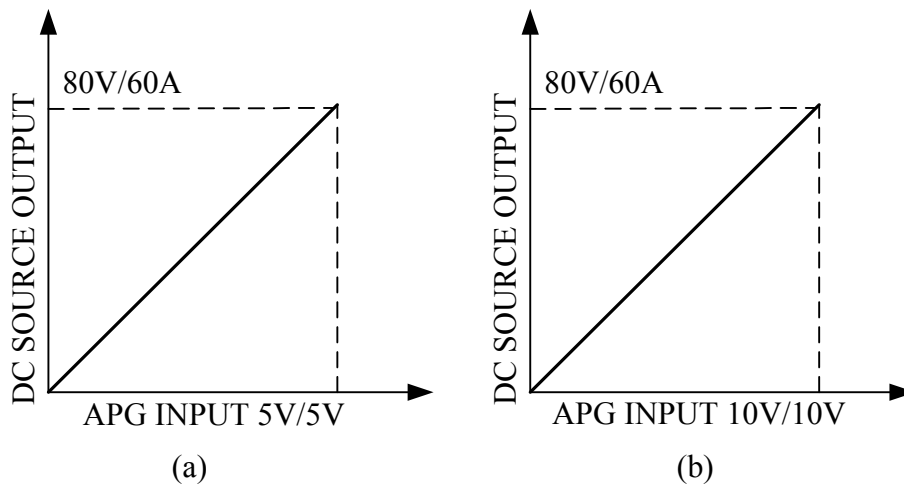

Figure 3-10
① NOTICE
- a. When selecting $V_{ref}=5V$ → it means the DC Power Supply’s output 0V/0A~80V/60A will map to 0~5V (programming or measurement) as Figure 3-10(a) shows.
- b. When selecting $V_{ref}=10V$ → it means the DC Power Supply’s output 0V/0A~80V/60A will map to 0~10V (programming or measurement) as Figure 3-10(b) shows.